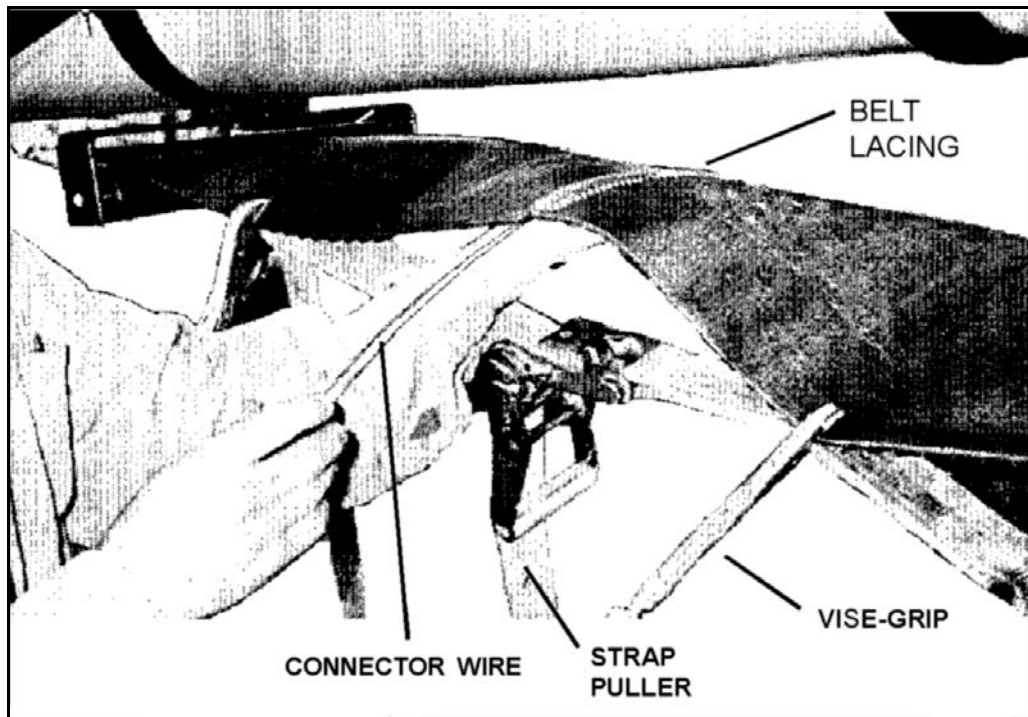

Figure 8.6 Strap Puller
6. Reattach conveyor belt ends together. If required, use a ratchet strap clamped to both ends of belt to cinch belting ends together (see Figure 8.6).
9. Reattach conveyor belt ends together. If required, use a ratchet strap clamped to both ends of belt to cinch belting ends together (see Figure 8.6).